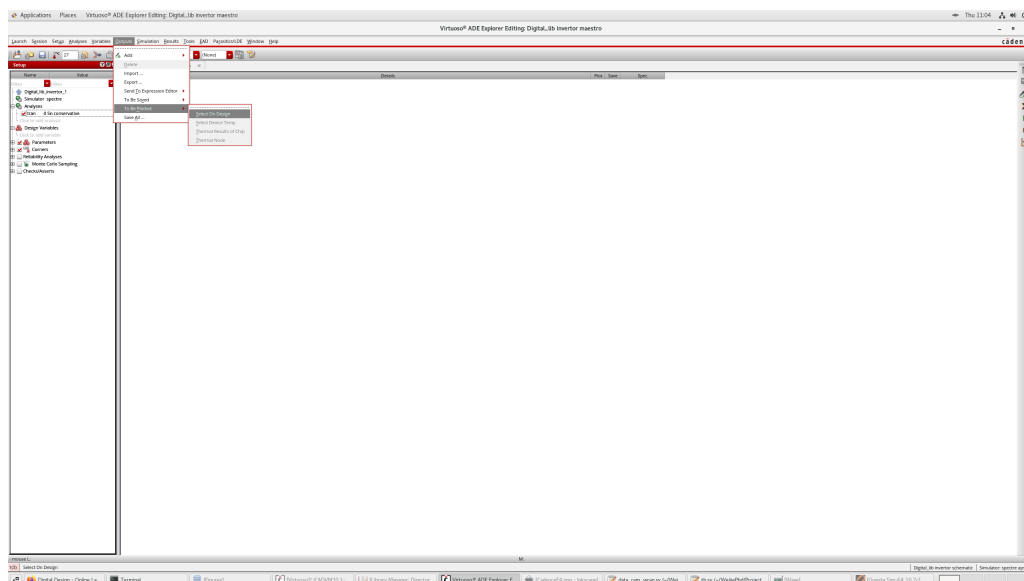

Figure 8: Adding outputs
7. Next, we need to **specify a few signals to be examined**. Click on the "outputs/to be plotted/ select on design" (Figure 8). This will direct you back to the schematic viewer page. Click on the input and output pins of the design to add them into output lists.